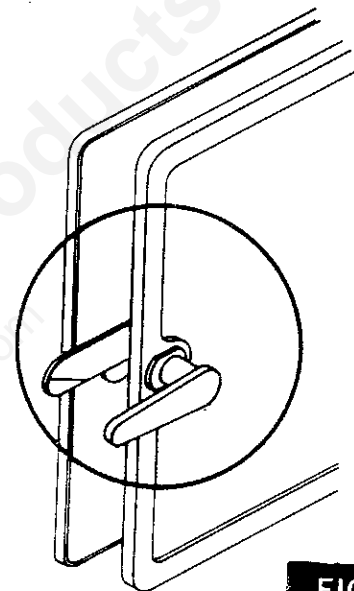

FIG. 13
4. Then to open door, turn the handle counter-clockwise to the 9 o'clock position and then continue to pull the door open. (Fig. 13).